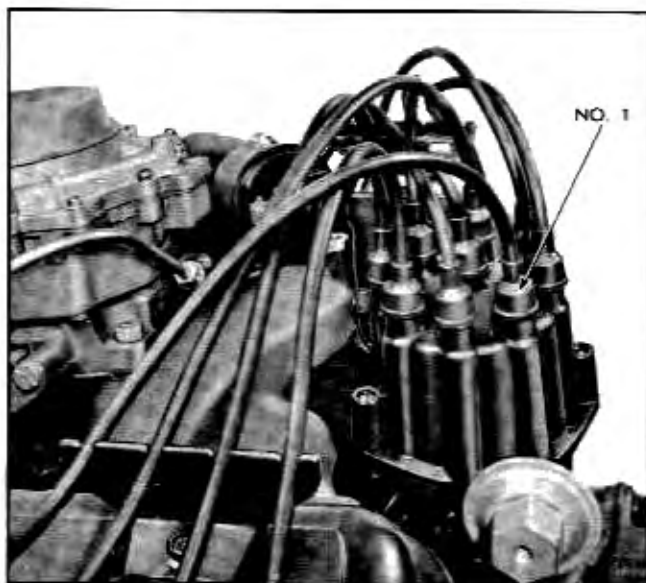

Fig. 12-59 Location of No. 1 Spark Plug Cable Terminal
6. Install spark plug wires in distributor cap. Place wire for No. 1 cylinder in tower shown in Fig. 12-59 (marked on old cap during disassembly) then install remaining wires counterclockwise around the cap according to the firing order (1-8-4-3-6-5-7-2).